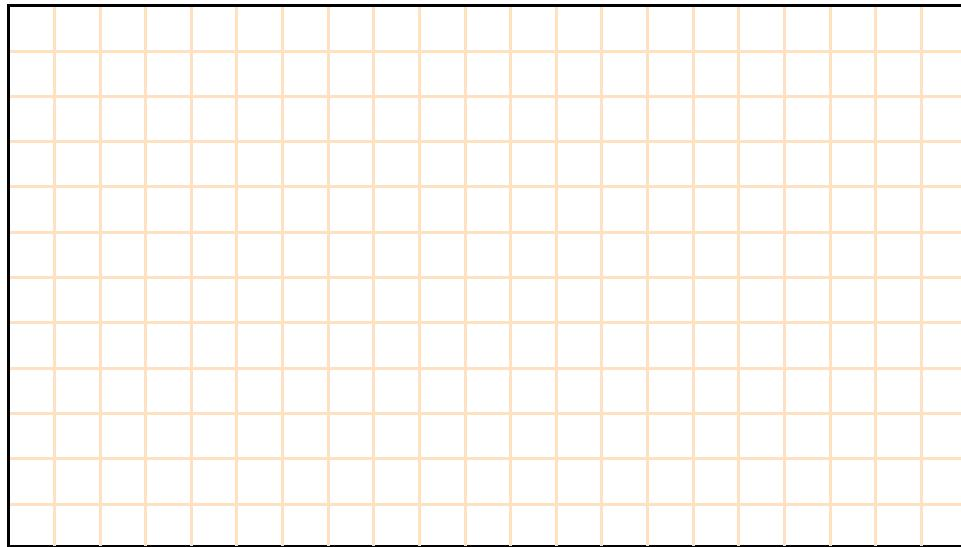
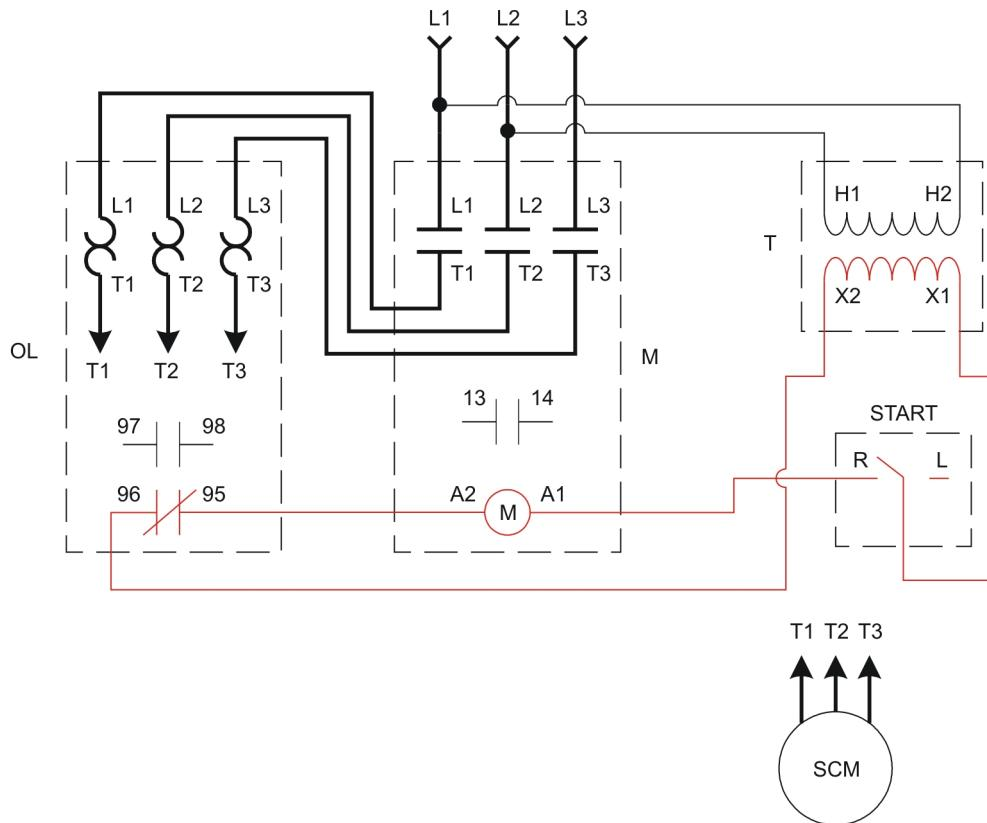

Figure 2-9. Schematic diagram of the Figure 2-10 wiring diagram.
Figure 2-10. Wiring diagram.
4. Draw, in Figure 2-9, the schematic diagram of the wiring diagram shown in Figure 2-10.